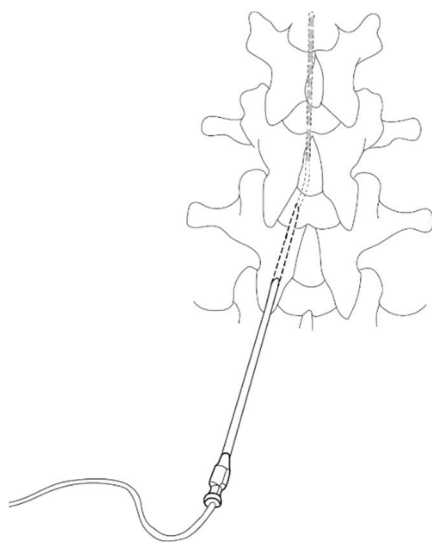

Figure 5.4: Feeding the percutaneous lead and stylet through the needle.
1. Feed the percutaneous lead with the stylet, through the needle into the epidural space (refer to Figure 5.4).